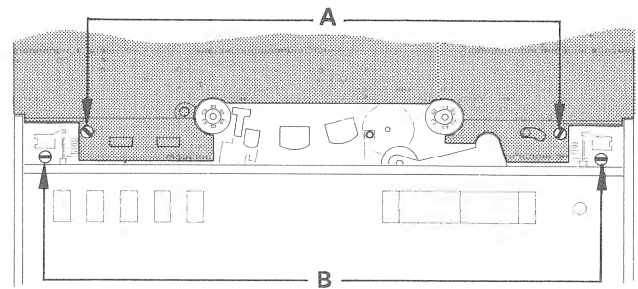

Fig. 3.2—4
- Undo screw A (fig. 3.2—4). Pull cover panel off (Upper rim, 3 retainers).
- Undo screws B (fig. 3.2—4). Pull out power switch knob as well as all rotary knobs and discs. Save retaining ring of power switch.